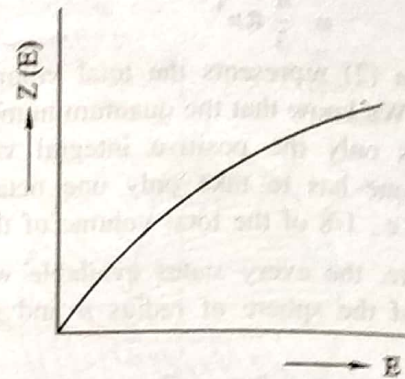

FIG. 1.17 : VARIATION OF THE DENSITY OF STATES WITH ELECTRON ENERGY
i.e., the density of states curve is a parabola as shown in Fig. 1.17.